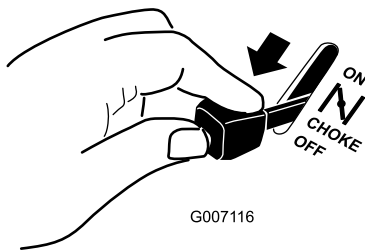

Figure 22
- Gradually move the choke lever to the Off position (Figure 22). If the engine stalls or hesitates, engage the choke again until the engine warms up.